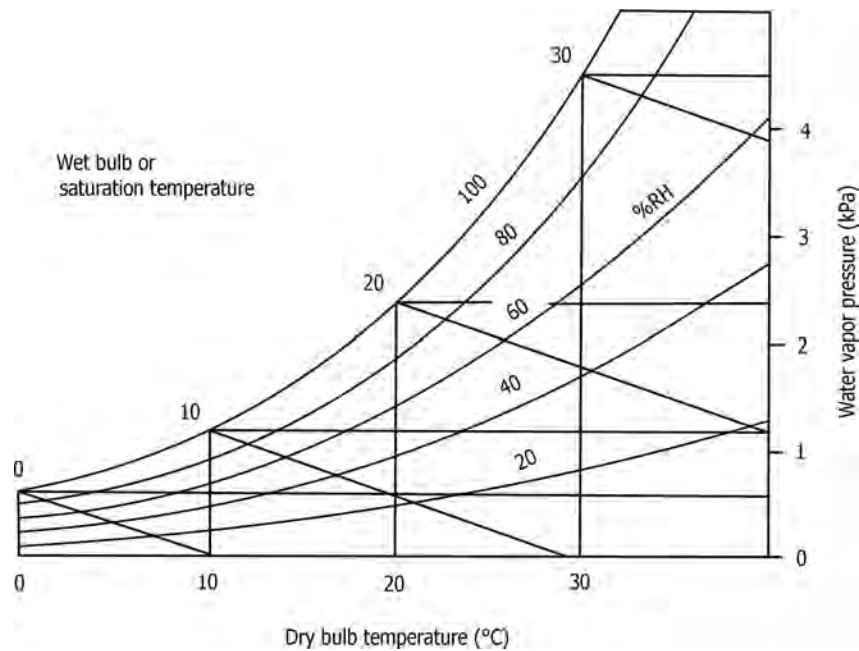

FIGURE 18.11 Humidity chart.
- Humidity chart shows the relationship between the temperature (abscissa) and absolute humidity (ordinate, in g moisture per kg dry air) of humid air at one atmosphere absolute pressure over a range of temperatures (Figure 18.11).